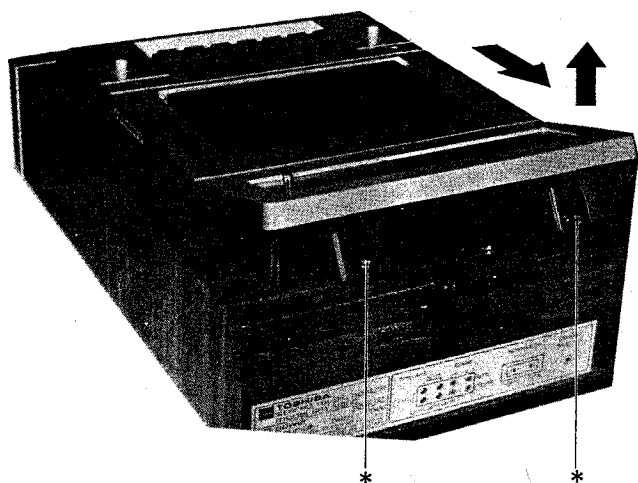

Figure 5
- Remove the two screws marked (*) as shown in figure 5.
- Slide and lift up the cassette body to the direction of arrow indicating in figure 5.